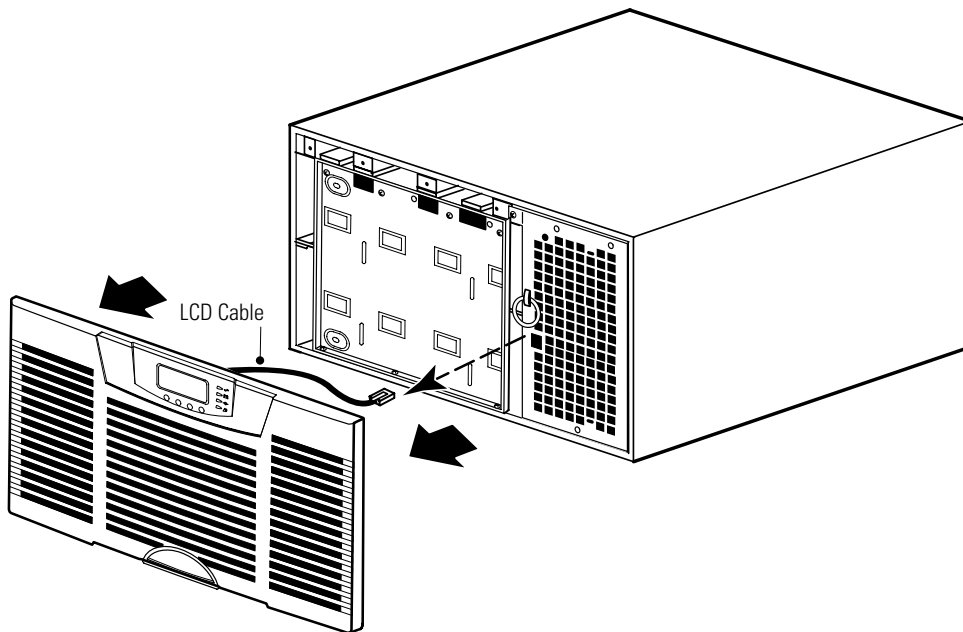

Figure 52. Removing the UPS Front Cover
2. Remove the UPS front cover and set it aside (see Figure 52):